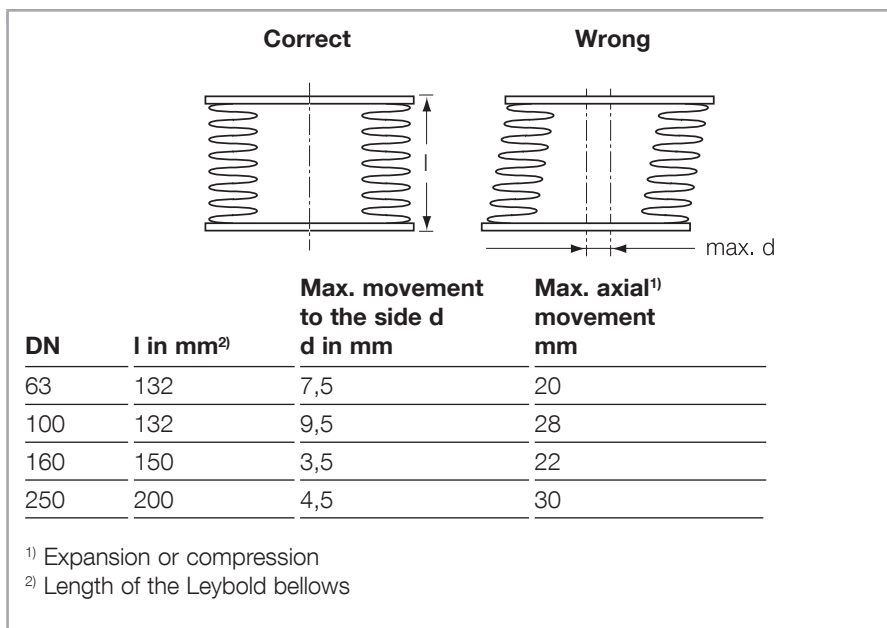

Fig. 3.3 Maximum movement of the bellows
- The amount of expansion must not exceed the specified amount of axial expansion/compression or the stated amount of side displacement. A combination of axial expansion/compression and side displacement is possible. The total percentage of the partial expansions must be less than 100%. For this refer to Fig 3.3.